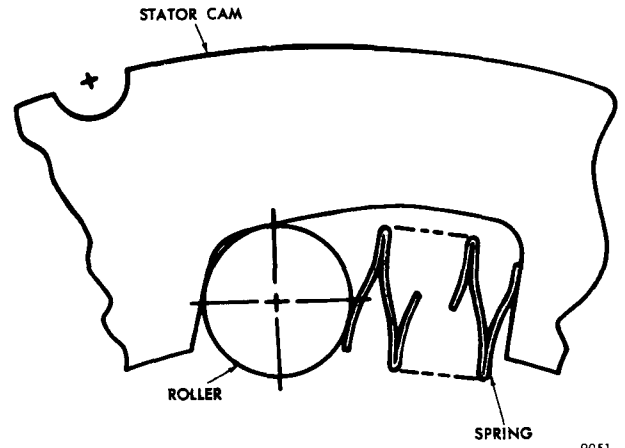
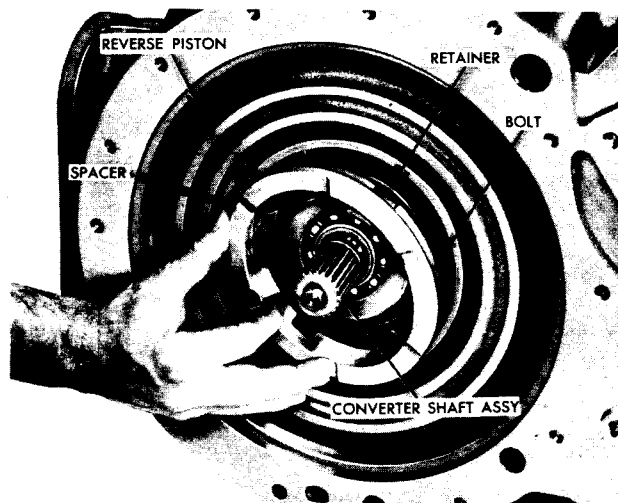

Fig. VI-13. Spring and roller installed in stator cam
Fig. VI-25. Installing (or removing) thrust spacer S2518
(2) Coat the cam pockets in the stator cam with oil-soluble grease. Install 10 rollers into the shallow ends of the cam pockets. Install the 10 springs into the deep ends of the pockets. Fig. VI-13 shows the proper positions of the rollers and springs in stator cam.
(3) Install the freewheel roller race 7 (B, foldout 7) into the stator assembly. Rotate the race clockwise while installing it. This will roll the rollers toward the deep ends of the cam pockets, allowing the race to enter the bore of the stator assembly.
(4) When the race is seated against the thrust bearing, twist it firmly to the left (counterclockwise) to lock it in place. Lay the assembled stator aside, roller race upward, until ready for installation into the transmission.
c. Assembly (items 31 and 35, B, foldout 7)
(1) Position the first-stator (front) assembly, flat side upward, on the work bench. Position the second-stator (rear) assembly flat side downward, on the work bench.
(2) Coat the cam pockets of each stator assembly with oil-soluble grease.
(3) Install eight rollers 29 or 33 into the shallow ends of the cam pockets of each stator assembly.
(4) Install eight springs 30 or 34 into the deep ends of the cam pockets of each stator assembly. Refer to fig. VI-13 for the proper positions of the rollers and springs in the stator cams.
a. Disassembly (item 11, B, foldout 8)
(1) Remove six self-locking bolts 39 and flat washers 38 from bearing retainer 37. Remove the retainer (fig. VI-25). Tap the converter shaft assembly (rearward) out of the converter housing assembly. Remove two hook-type seal rings from the shaft. Do not
(21) Install the converter shaft assembly into the rear of the converter housing assembly (fig. VI-25). Seat the bearing in its bore.
(22) Install bearing retainer 37 (B, foldout 8) and retain it with six self-locking bolts 39 and flat washers 38.
(23) Using a generous quantity of oil-soluble grease to retain it, install the thrust